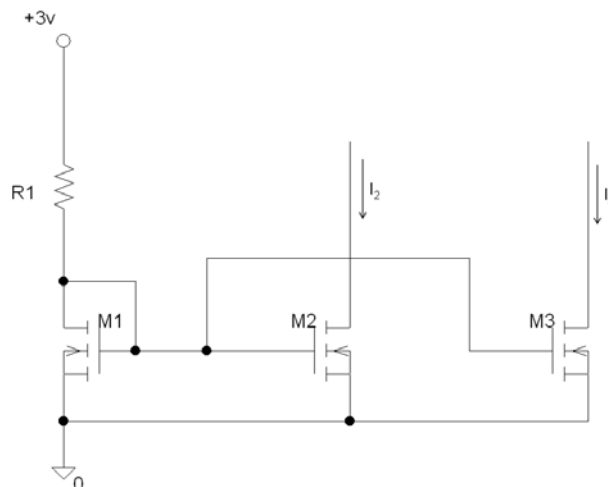

Figure PS5.3a
3. This problem concerns the simple MOS current mirror shown in Figure PS5.3a.